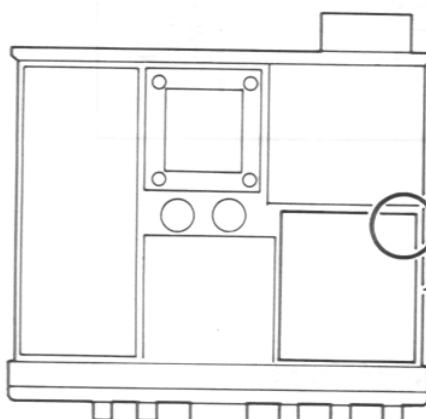

Figure 1
1. On the component side of the RF Unit, install a $1\mu F$, 50 WV electrolytic capacitor, as shown in Figures 1 and 2. The positive lead of the capacitor is soldered to the lead of R1045, and the negative lead to the TEST PIN (G1).